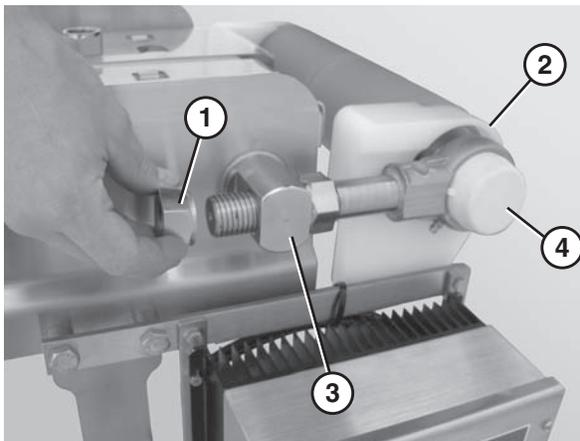

Figure 71
1. Remove the back nuts (**Figure 71, item 1**) on both idler tail shafts.
2. Slide the idler tail assembly (**Figure 71, item 2**) out of the take up blocks (**Figure 71, item 3**).
3. Remove the bearing covers (**Figure 71, item 4**).